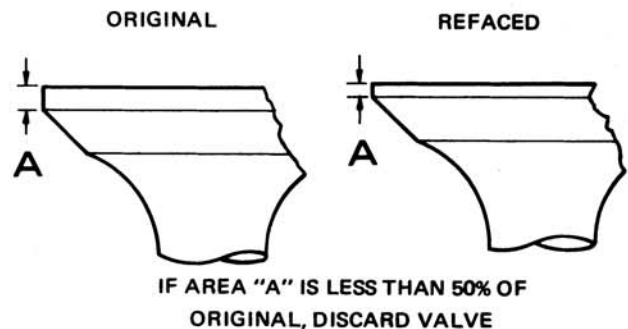

FIGURE 7. ALLOWABLE THICKNESS OF REFACED VALVE
- All valves having less than 50% margin thickness (outer edge of valve head) after refacing has been completed must be replaced. To check this dimension, compare the refaced valve with a new valve (Figure 7).